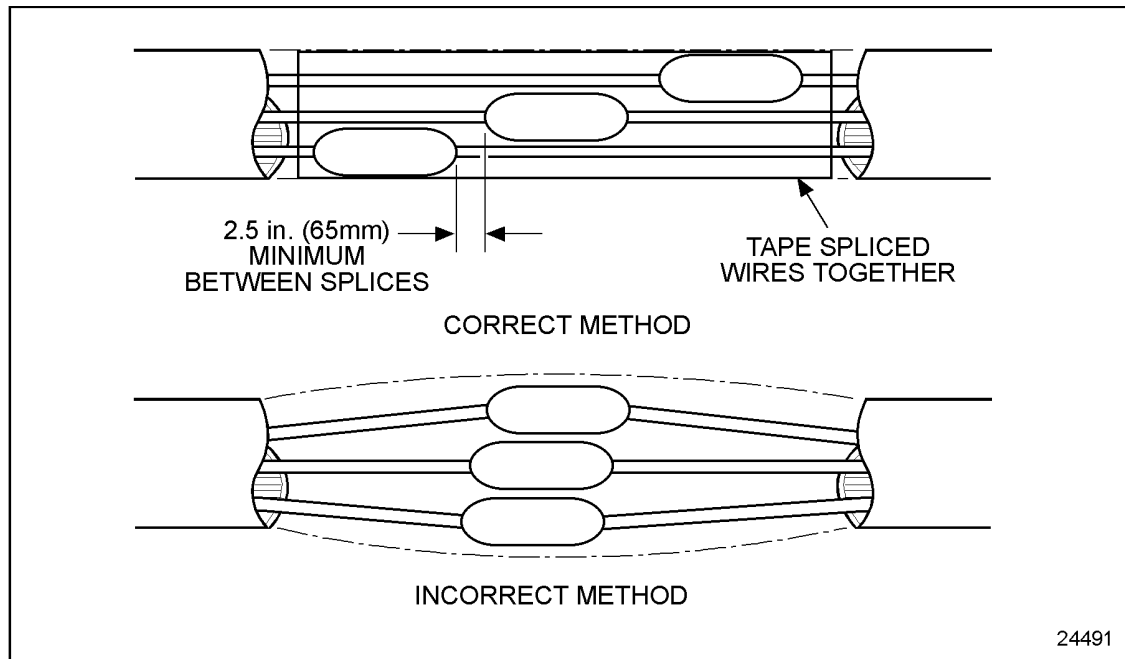

Figure 8-31 Multiple Splices
1. Stagger the position of each splice. See Figure 8-31.